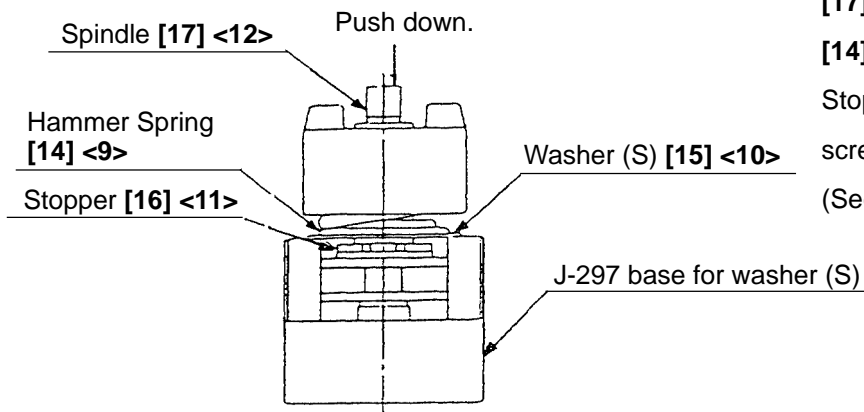

Fig. 6
(3) Disassembly of the hammer assembly
Mount the hammer assembly onto the J-297 base for washer (S). With a hand press, push down the top of the Spindle [17] <12> to compress the Hammer Spring [14] <9>. In this position, remove the Stopper [16] <11> with a flat-blade screwdriver, then release the hand press. (See Fig. 6.)